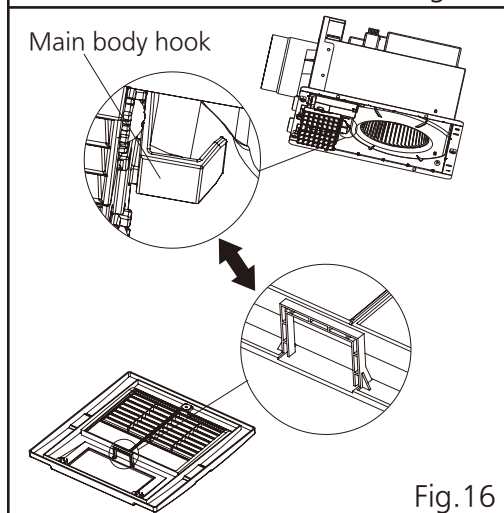

Fig.16
② Hang the louver into the hook on the main body.(Fig.16)